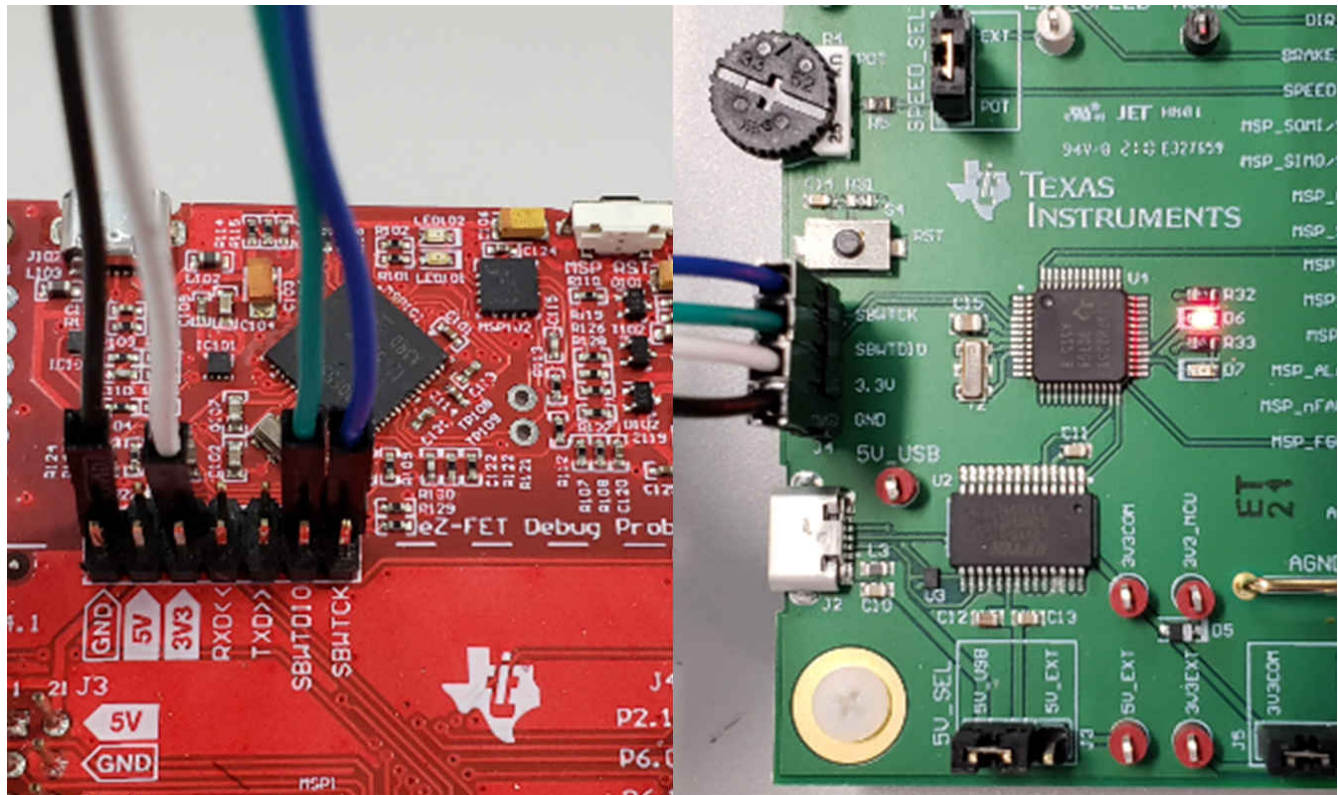

Figure 7-2. MSP430 LaunchPad™ eZ-FET Probe Connected to MCT8315EVM
- Connect the top pins on the eZ-FET side of the LaunchPad of the GND, 3V3, SBWTCK, and SBWTDIO signals to their respective pins on J4 of the MCT8315EVM as shown in Table 7-1 and Figure 7-2.